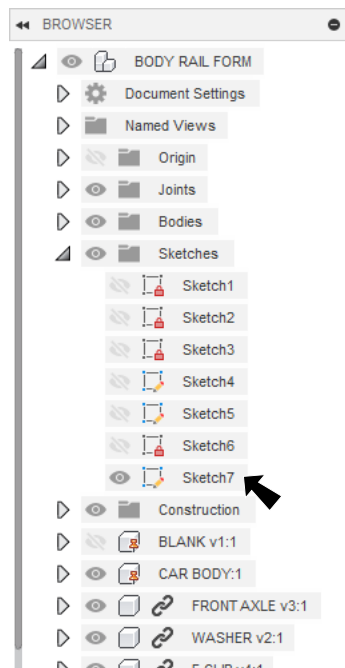

Fig. 3
Step 5. Expand **Sketches** folder and Show **Sketch7** (sketch created in Render Chapter), Fig. 3.